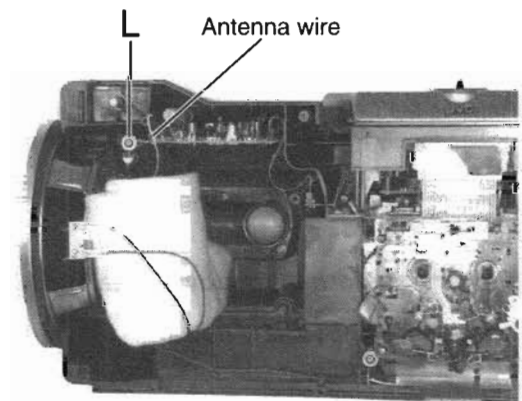

Fig.9
■ **Tuner P.C.B removal** (See Fig.9)